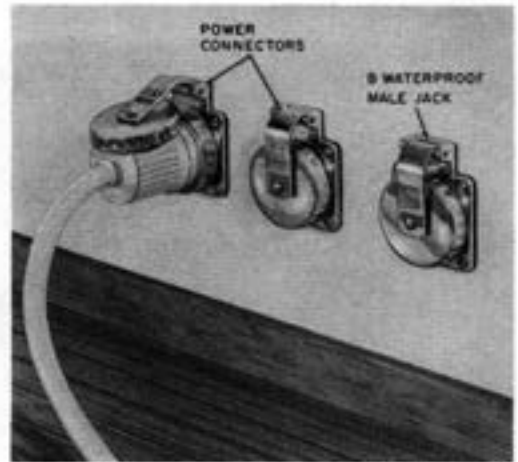

Fig. 21—B Waterproof Male Jack Mounted on Boat— Typical Installation
3.08 The owner of the boat should be given the B template to drill the mounting and clearance holes for the B waterproof male jack adjacent to the power plugs in the cockpit coaming or in the outer hull of the boat (see Fig. 21 through 24). The installer should not drill any holes on boats either for mounting or running wire.